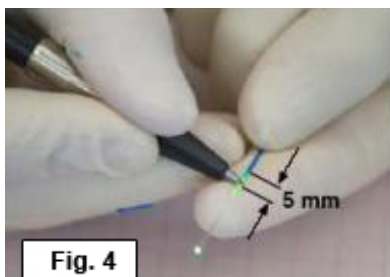
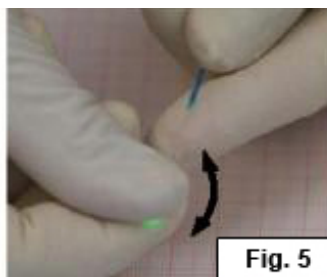

Fig. 4
Fig. 5
- Carefully score the light guide (Fig. 4) to create a predetermined breaking point, then break off the light guide at this point by bending it slightly while pulling forward (Fig. 5).